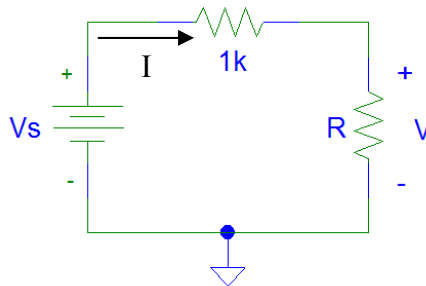
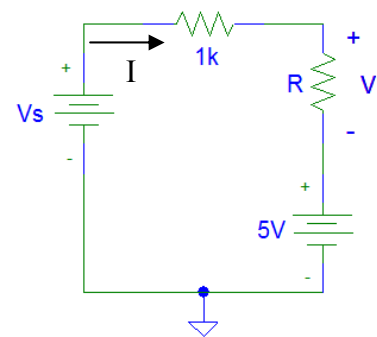

Figure 4 – Circuit to demonstrate Ohm's Law.
Figure 5 – Modification of Figure 4.
Build the resistor components of Fig 3. on your myDAQ breadboard **BEFORE** your lab. Try not to use too much space, so you can fit the other circuits (Fig. 4 and Fig. 5) that you will build DURING lab.
- Construct the circuit of Fig. 4. Use a resistor, R , of unknown resistance (obtained from the laboratory TA). Connect an ammeter (use your myDAQ!) to measure the current through R and a voltmeter (use your myDAQ!) to measure the voltage across R . Remember to connect the ammeter in series and the voltmeter in parallel. Be sure to use the DC setting on the meters. V_S is a variable voltage source.
- Insert a DC voltage source of 5 V in series with R , as shown in Fig. 5. Place the voltmeter across both R and the 5 V source and repeat steps 2 and 3, i.e., repeat steps 2 and 3 but this time measure the current through R and the 5 V source and the voltage across R **AND** the 5 V source (**not** as shown).